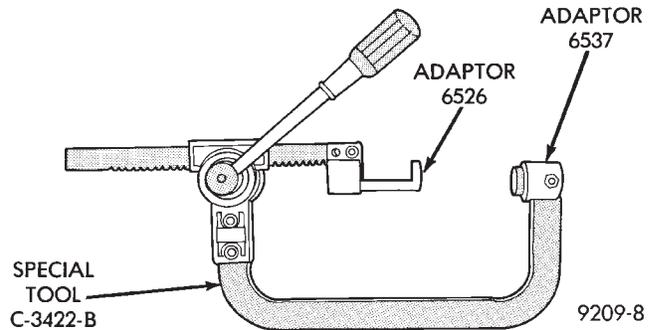

Fig. 11 Valve Spring Compressor
- (1) With cylinder head removed, compress valve springs using Valve Spring Compressor Tool C-3422-B with adaptors 6537 and 6526 (Fig. 11).
- (2) Remove valve retaining locks, valve spring retainers, valve stem seals and valve springs.
- (3) Before removing valves, **remove any burrs from valve stem lock grooves to prevent damage to the valve guides.** Identify valves to insure installation in original location.
(1) The intake and exhaust valve seats and valve face have a 45 degree angle.
(2) Inspect the remaining margin after the valves are refaced (Fig. 11). Exhaust valves with less than 1.07mm (3/64 inch) margin and intake valves with less than 1.06mm (3/64 inch) margin should be discarded.
(3) When refacing valve seats, it is important that the correct size valve guide pilot be used for reseating stones. A true and complete surface must be obtained.
(4) Measure the concentricity of valve seat using a valve seat dial indicator. Total runout should not exceed 0.1 mm (.004 inch) (total indicator reading).
(5) Inspect the valve seat with Prussian blue to determine where the valve contacts the seat. To do this, coat valve seat **LIGHTLY** with Prussian blue then set valve in place. Rotate the valve with light pressure. If the blue is transferred to the center of valve face, contact is satisfactory. If the blue is transferred to top edge of the valve face, lower valve seat with a 15 degree stone. If the blue is transferred to the bottom edge of valve face raise valve seat with a 65 degrees stone.